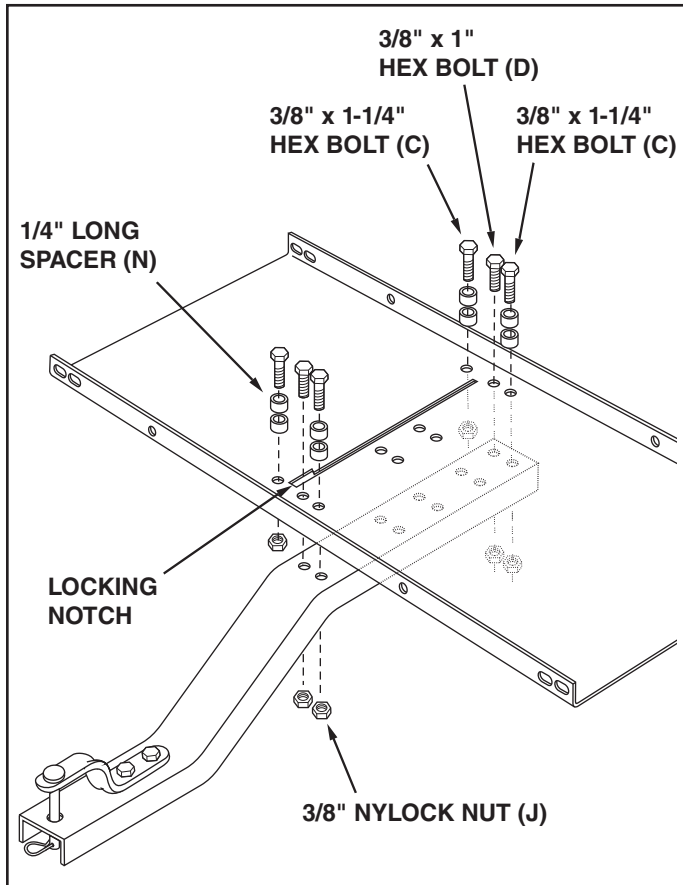

FIGURE 8
**IMPORTANT:** Make sure the tray is turned so that the locking notch is at the front as shown in figure 8.
11. Assemble the tongue to the tray using two 3/8" x 1" hex bolts (D), two 3/8" x 1-1/4" hex bolts (C), four 1/4" long spacers (N), and four 3/8" nylock nuts (J) as shown in figure 8. **Tighten.**
12. Assemble two 3/8" x 1-1/4" hex bolts (C), four 1/4" long spacers (N) and two 3/8" nylock nuts (J) to the holes on the other side of the slot in the tray. **Tighten.** See figure 8.